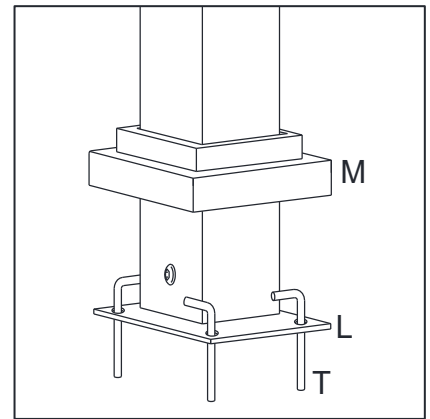

Fig.14
14. Adjust position of gazebo and anchor posts to the ground by inserting Stakes (T) into each hole in each Base Plate. See Fig.14.